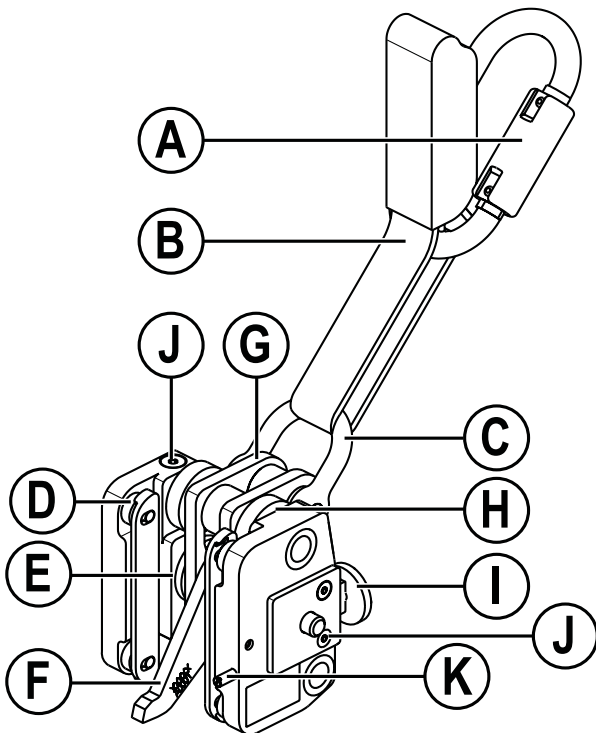

Fig. 13
The guided type fall arrester (Fig. 13 and 14) is functional if it meets the following criteria:
- GÜFA Flexx only (Fig. 13): It must not be possible to actuate the pressure plate (I) as long as the guided type fall arrester is not in the “arrow up” position.
- GÜFA Flexx only (Fig. 13): Without an actuated pressure plate (I) it must not be possible to pull the two side parts of the safety-runner apart.
- GÜFA Flexx only (Fig. 13): When the pressure plate (I) is actuated, the two tensioned side parts of the guided type fall arrester must be able to be pulled apart against the tension. Without pulling, the side parts must contract again.
- GÜFA Flexx only (Fig. 13): The 4 countersunk screws (J) must be present and firmly connected to the side parts.